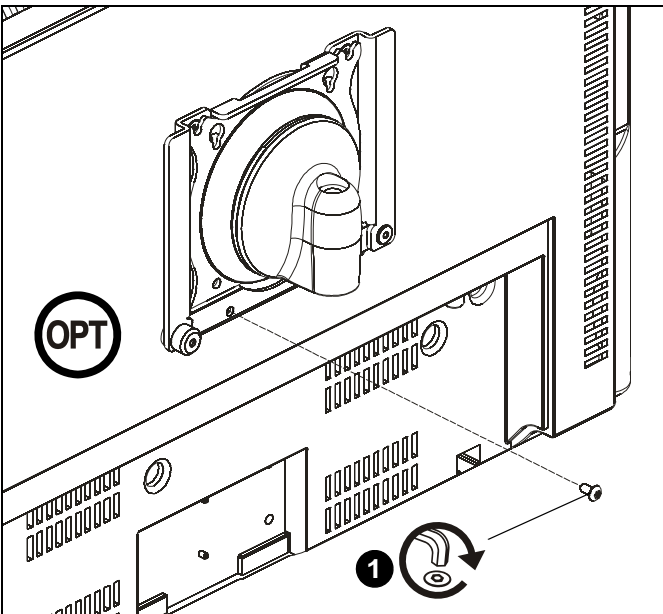

Figure 6
1. Use enclosed 5/32" security hex key (C) to install M4 x 8mm button head security screw (B) into security hole on bracket. (See Figure 6)